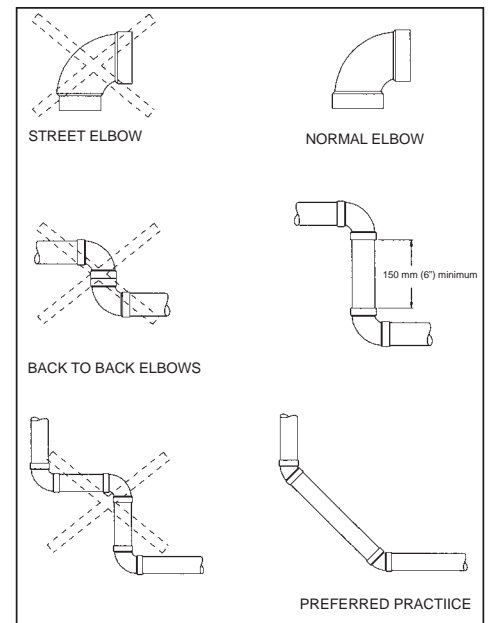

Figure 24. Vent Pipe Elbow Use
- Maintain a minimum 6" straight section between elbows. Closely coupled and short radius elbows reduce the venting capacity. Figure 24 (page 23) shows examples of vent pipe connections.